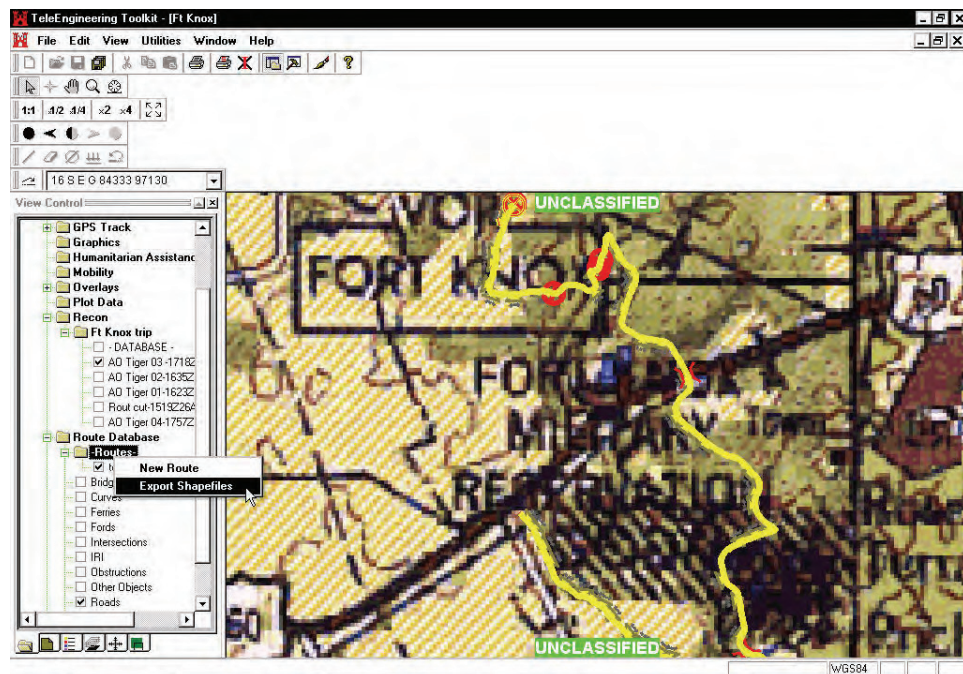

Figure 48. Exporting route database
14. To transfer information from the “Route Database” to other systems, highlight the desired category by double clicking on it using the left mouse button; a check mark will be displayed in the box next to the category. Left click on the category and select “Export Shapefile” (from the “Bridges” category) or “Save As” (from other categories). Figure 48 provides an example. “Select Save As Shapefile Folder” will be displayed; select a folder where the shapefile will be saved. The file name for the exported file will become the name of the category. Three files will be created when data are exported: a “.dbf,” a “.shp,” and a “.shx” file. These files can be displayed in ArcView. If the data category is empty (i.e., bridge data doesn’t exist and the user attempts to export the file) the system will potentially crash.